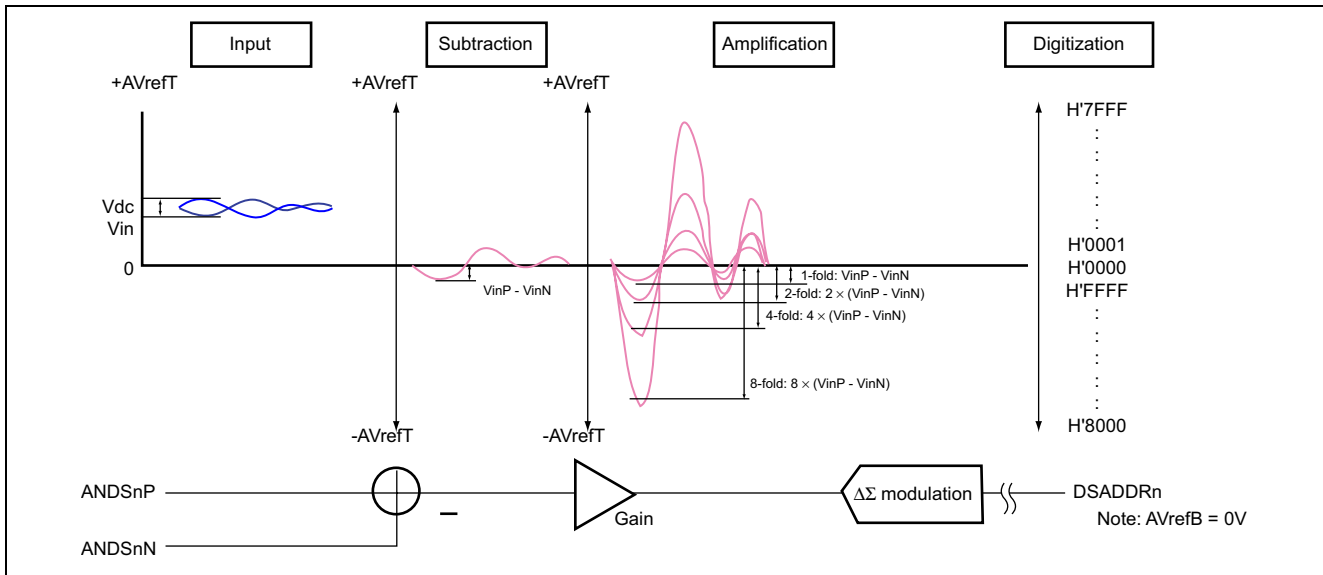

Figure 5.5 Differential Input
The response of an ideal A/D converter, as shown as a dashed line in figure 5.5, is linear from the origin to the full-scale voltage. Since offset (OS) error and full-scale (FS) error are produced, the actual relation is portrayed by the solid line. Consequently, offset/full-scale error correction should be applied to derive more accurate values from the measured digital values.